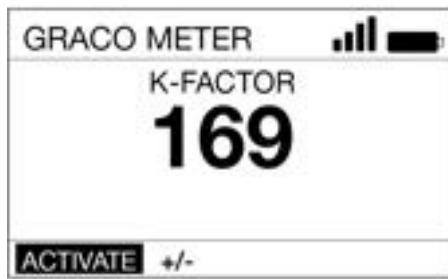

FIG. 21
4. Select the CALIBRATE option (FIG. 20) to display the calibration K-Factor screen shown in FIG. 21.
5. Select ACTIVATE and press the ENTER button to begin metered dispense valve calibration (FIG. 21).